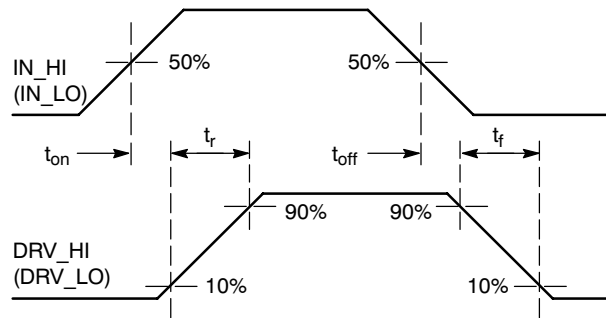
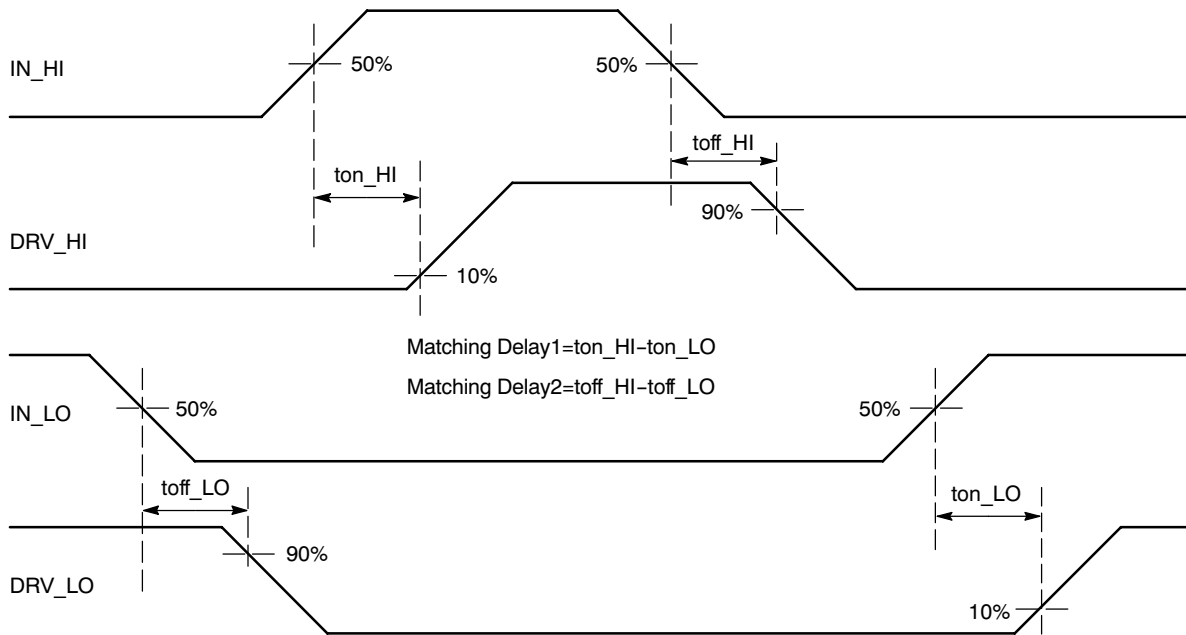

Figure 5. Propagation Delay and Rise / Fall Time Definition
Figure 6. Matching Propagation Delay
5. Timing diagram definition see: Figure 5 and Figure 6.